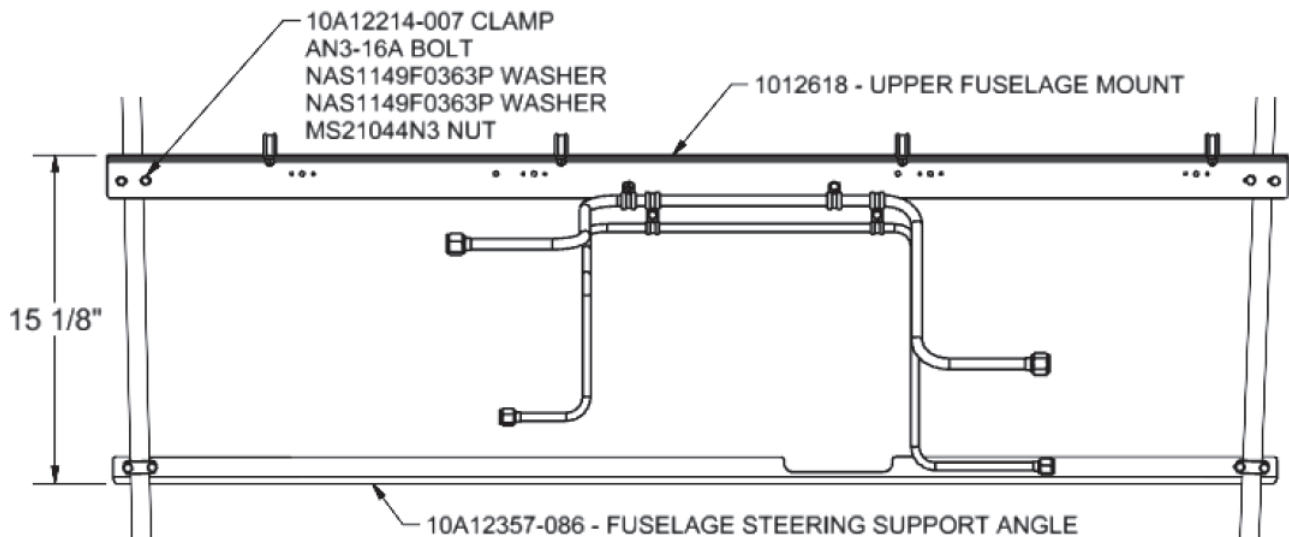

FIGURE 7
c. Locate upper fuselage mount (1012618) 15 1/8" up from fuselage steering support angle (10A12357-086). Secure upper fuselage mount, on each side, to airframe vertical tubing with hardware shown in Figure 7.